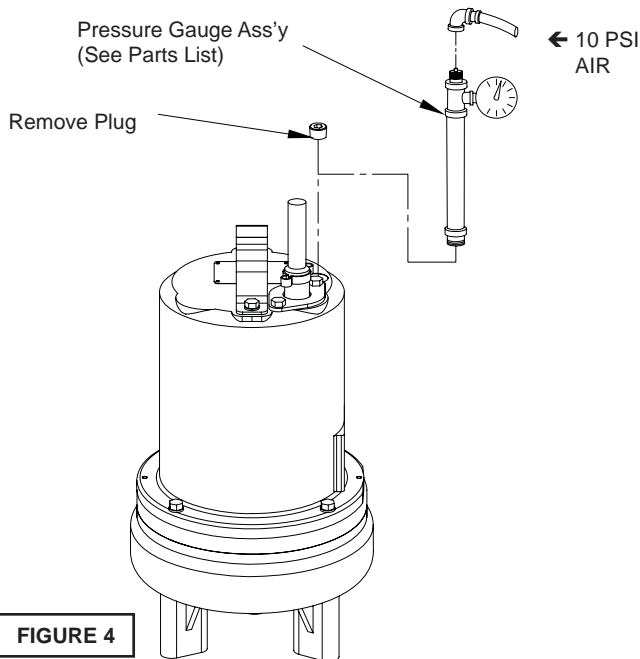

FIGURE 4
- If the pump has been disassembled, the oil should be drained before a pressure test, as described in section F-1.1. Remove pipe plug (39) from motor housing (6). Apply pipe sealant to pressure gauge assembly and tighten into hole (See Figure 4). Pressurize motor housing to 10 P.S.I. Use soap solution around the sealed areas and inspect joints for “air bubbles”. If, after five minutes, the pressure is still holding constant, and no “bubbles” are observed, slowly bleed the pressure and remove the gauge assembly. Replace oil as described in section F-1.4. If the pressure does not hold, then the leak must be located and repaired.
The pressure test may be done with the oil at its normal level. Remove pipe plug (39) from motor housing (6). Apply pipe sealant to pressure gauge assembly and tighten into hole (See Figure 4). Pressurize motor housing to 10 P.S.I. Use soap solution around the sealed areas above the oil level and inspect joints for “air bubbles”. For sealed areas below the oil level, leaks will seep oil. If, after five minutes, the pressure is still holding constant, and no “bubbles”/oil seepage is observed, slowly bleed the pressure and remove the gauge assembly. If the pressure does not hold, then the leak must be located and repaired.